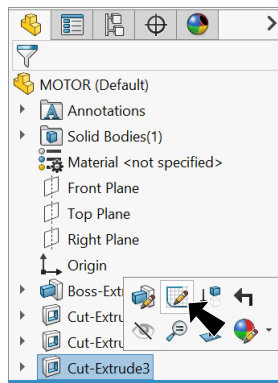

Fig. 19
Step 5. Click **Cut-Extrude3** in the Feature Manager and click **Edit Sketch** on the context toolbar, Fig. 19.